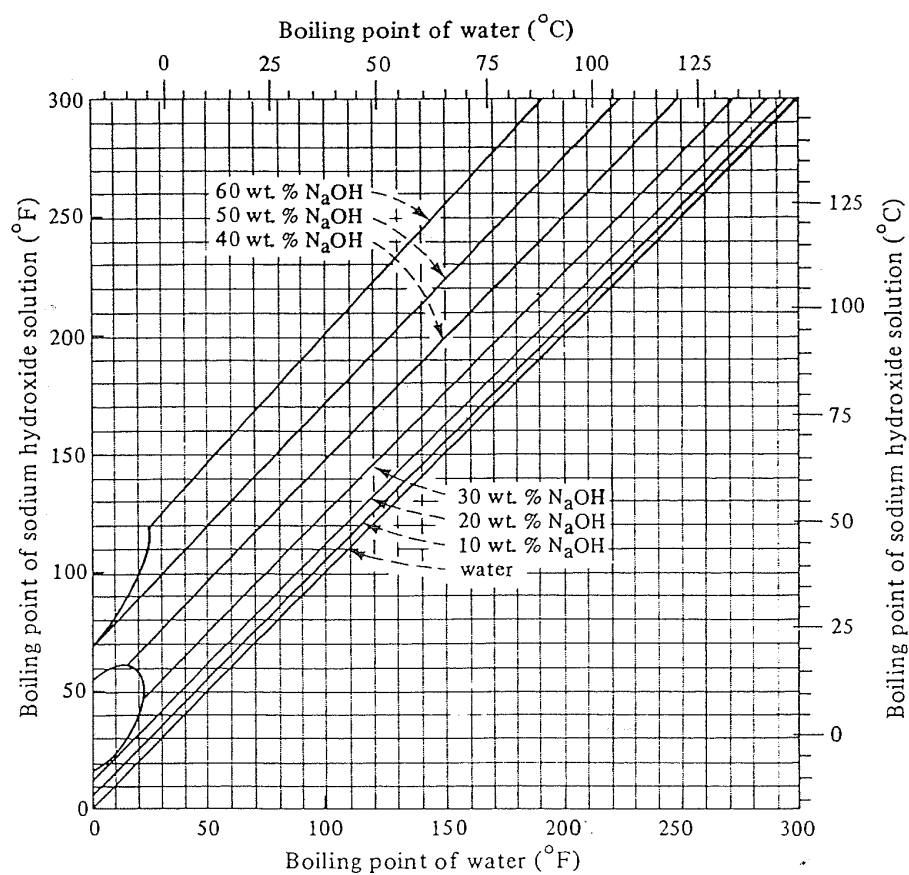

Figure 4: Boiling points for NaOH solutions for use in Q. 5.
- Calculate the boiling point rise and operating temperature of the evaporator. Why is it convenient to discuss a boiling point rise rather than an absolute temperature? A Dühring chart for NaOH-water mixtures is available in Fig. 4. [4 marks]